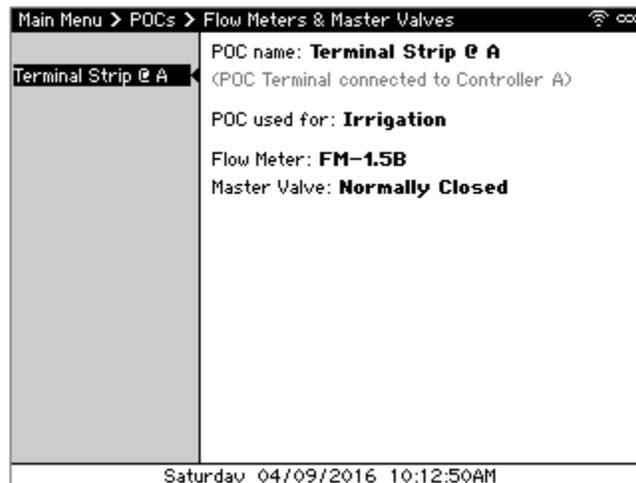

Figure 9 - Flow Meters & Master Valves screen
2. Navigate to **Flow Meters & Master Valves** and press **SELECT**. The Flow Meter & Master Valves screen displays (Figure 9). The pane on the left displays the POCs attached to this controller while the right shows the settings for each.